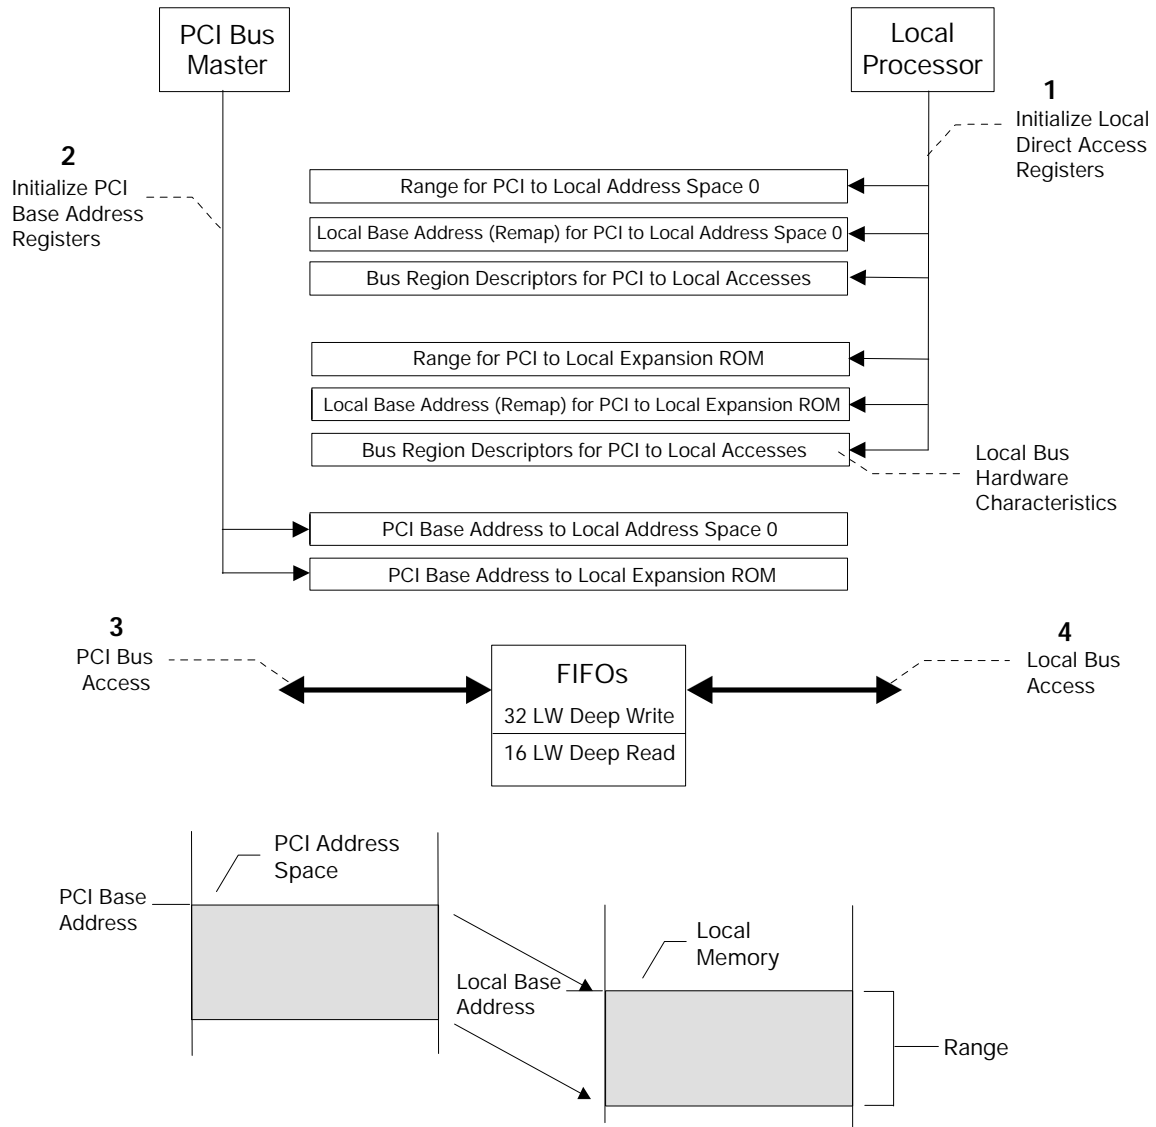

Figure 3-6. Direct Slave Access of Local Bus
A fourth register, Bus Region Descriptors for PCI to Local Accesses Register, defines the local bus characteristics for both regions. (Refer to Figure 3-6.)
PCI reset software determines how much address space is required by writing a value of all ones (1) to a PCI Base Address register and then reading back the value. The PCI 9080 return zeroes in “don't care” address bits, effectively specifying the address space required. The PCI software then maps the Local Address space into the PCI Address space by programming the PCI Base Address register. (Refer to Figure 3-6.)